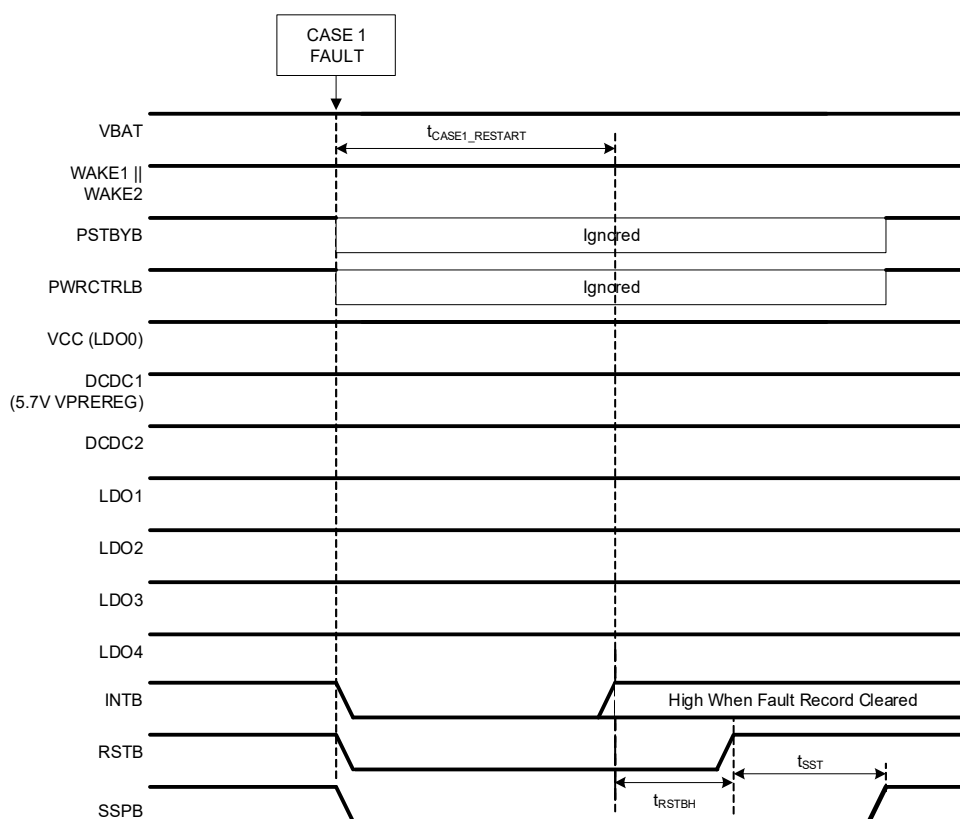

Figure 29. Case 1 Fault Timing
- Case 1 – Fault only requires RSTB low cycling and automatic restart. All regulators remain enabled. If the faulting source recovers in <10ms, RSTB returns high as shown in Figure 29. If the fault persists, RSTB remains low until the fault is no longer present at which point RSTB is released to the MCU.